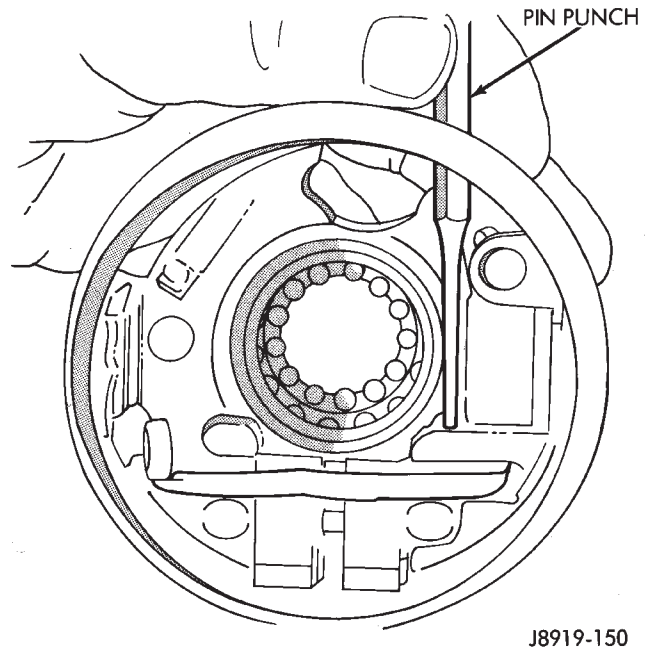

Fig. 14 Tilt-release Lever Pin Removal
(34) Remove the tilt-release lever pin from the key/lock cylinder housing with a standard pin punch (Fig. 14).